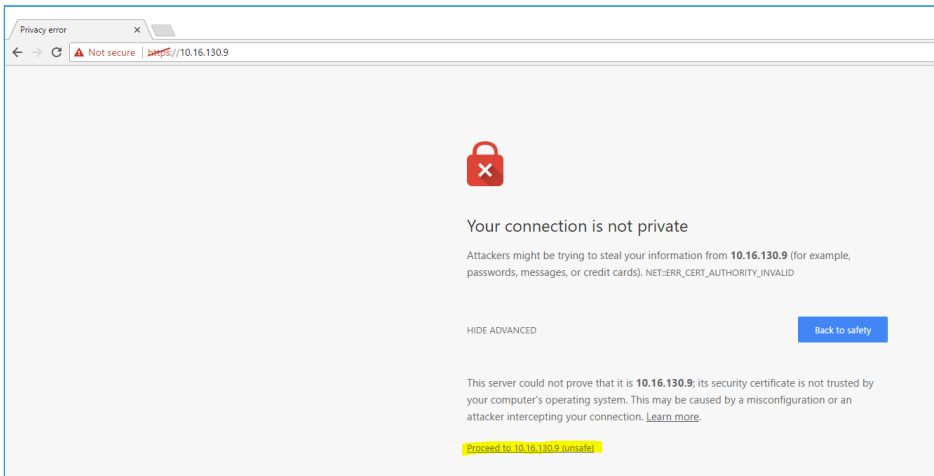

Figure 6: Web interface – second screen
- 5. Click **Proceed** (Figure 6).